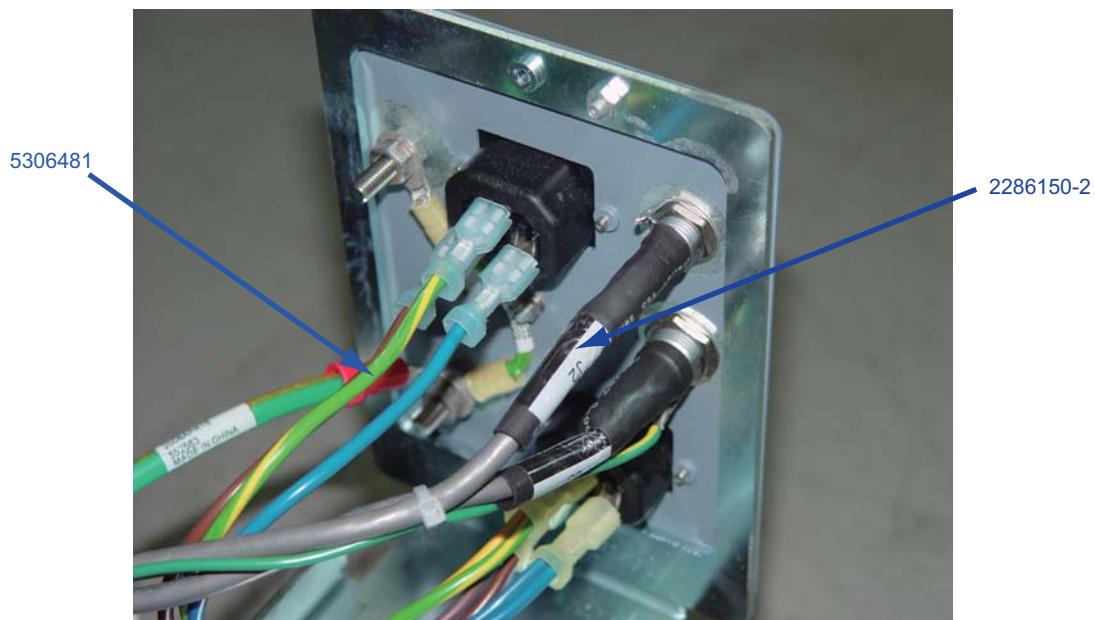

Figure 1-13 Right Panel Connection
7.) Connect cables 5306481 and 2286150-2 to Right Panel, as shown in Figure 1-13.